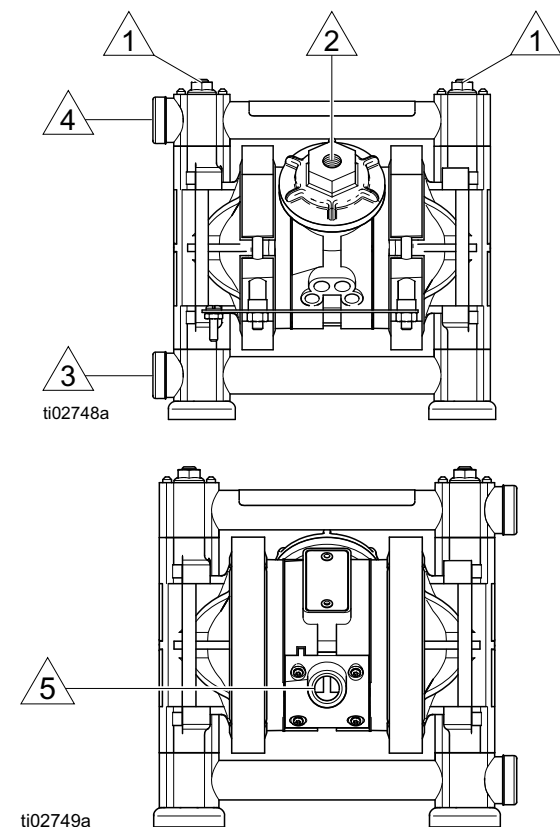

FIG. 2: Fluid Input and Output Ports (acetal pump shown)
- Use electrically conductive, flexible fluid hoses (N). The pump fluid outlet is 3/8 npt(f). See FIG. 2. Screw the fluid fitting into the pump outlet snugly.
- Install a fluid regulator (M) at the pump fluid outlet to control fluid pressure, if desired (see **Typical Installations**). See **Air Line**, step 1a, for another method of controlling pressure.
- Install a fluid drain valve (J) near the fluid outlet.
The pump is shipped with the fluid inlet and outlet ports facing the same direction. See FIG. 2. If desired, the direction of one or both ports can be changed. Remove the manifold(s) from the pump as explained in **Ball Check Valves** steps 1, 2, and 4. Reattach with the port facing the desired direction. See **Torque Sequence**. **Do not over-torque.**